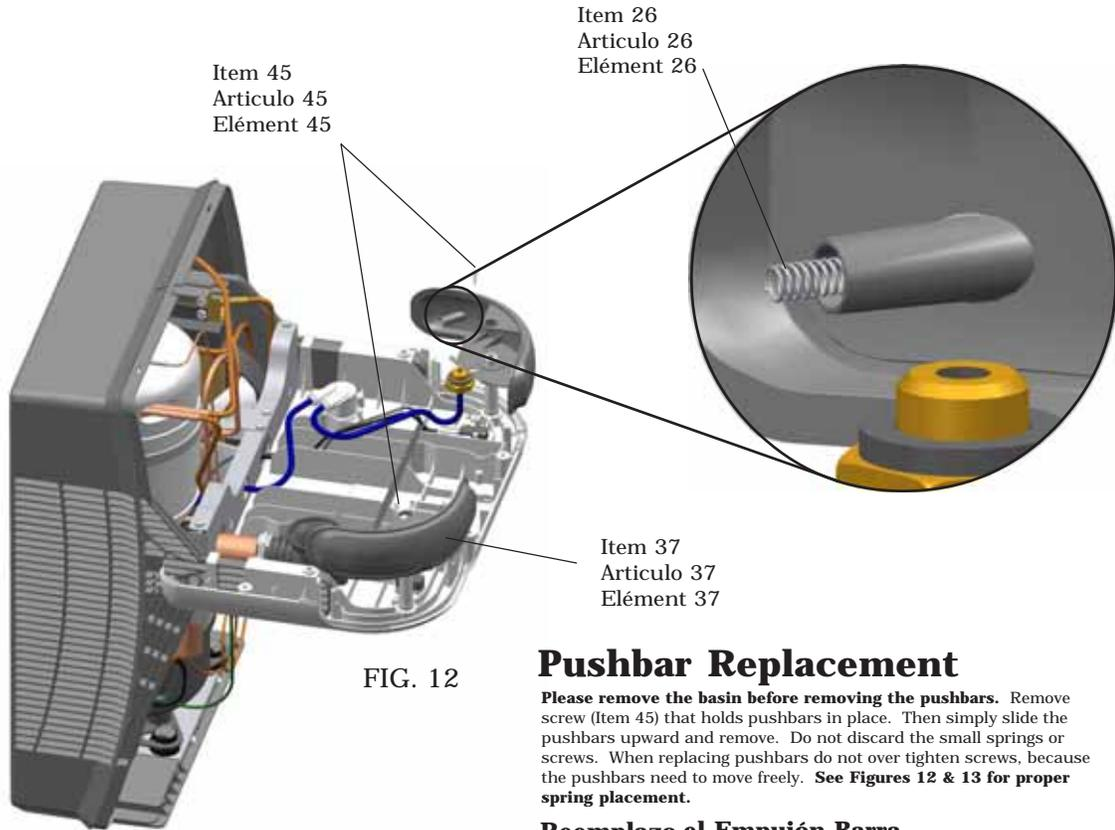

FIG. 12
**Please remove the basin before removing the pushbars.** Remove screw (Item 45) that holds pushbars in place. Then simply slide the pushbars upward and remove. Do not discard the small springs or screws. When replacing pushbars do not over tighten screws, because the pushbars need to move freely. **See Figures 12 & 13 for proper spring placement.**